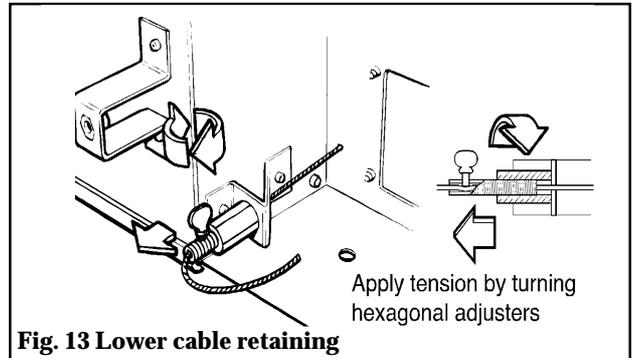

**Fig. 12 Cable route**
**7.2.5** Thread the cables through the upper eyebolts in the rear wall and then through the lower eyebolts. Return the cables through the holes near the bottom of the convection box back panel and through the “V” shaped brackets near the bottom front sides of the convection box (see figure 12).